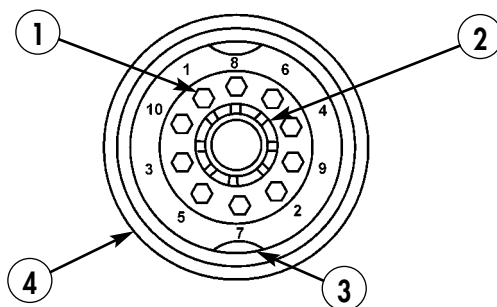

Figure 6. Wheel Nuts and Wheel.
12. Tighten wheel nuts (1) alternately as shown in figure 6 and notify your supervisor to properly torque wheel nuts (1).